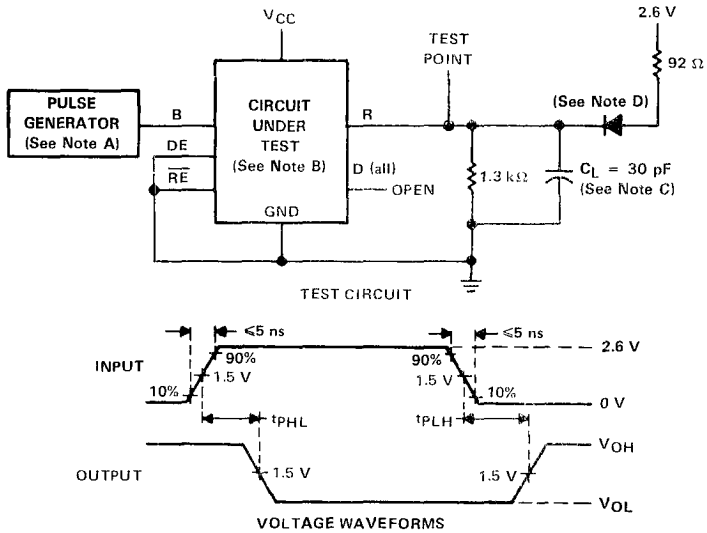

FIGURE 1. PROPAGATION DELAY TIMES FROM BUS TO RECEIVER OUTPUT
- NOTES: A. The pulse generator in Figures 1 and 2 has the following characteristics: $PRR \leq 10\text{ MHz}$, duty cycle = 50%, $Z_o \approx 50\ \Omega$.